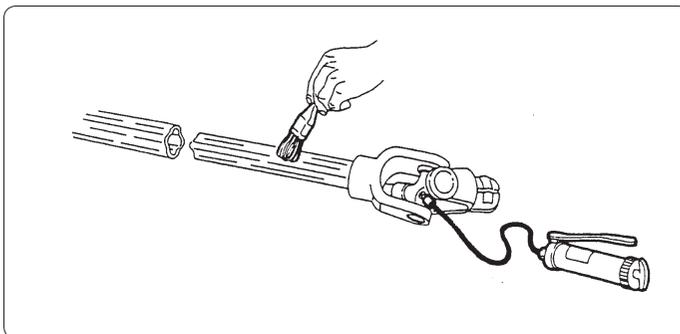

fig. 7.5.1
**7.5 - Cleaning and greasing the driveline (fig. 7.5.1)**
**7.5 - Pulizia e ingrassaggio albero cardanico (fig. 7.5.1)**